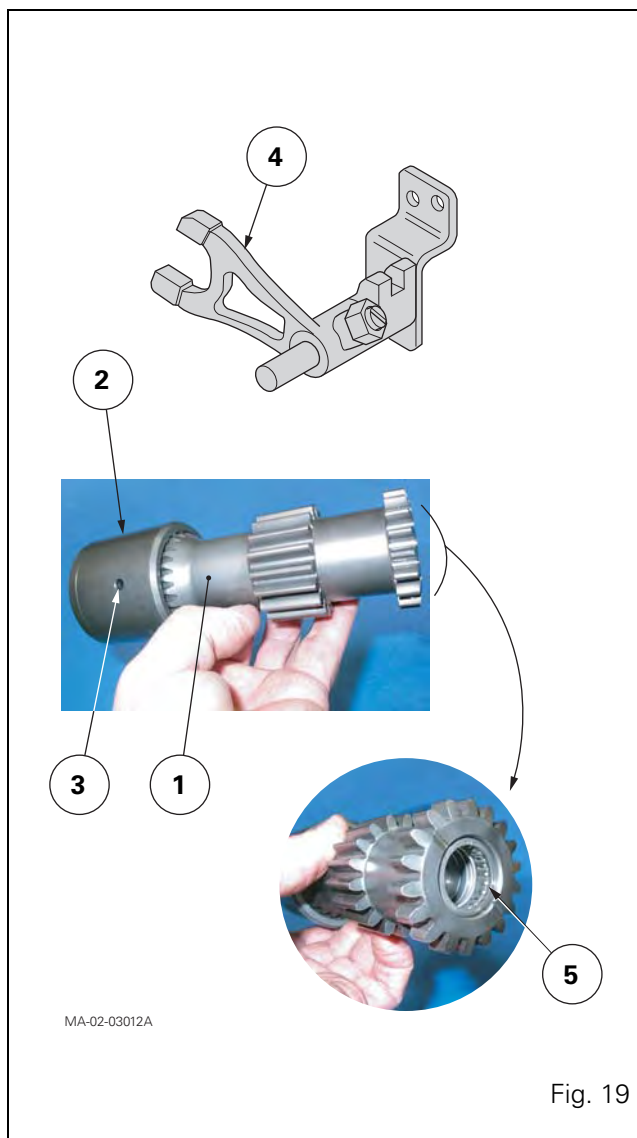

Fig. 19
- The shaft (1) composed of the sleeve (2) and double pin (3) is correctly assembled (Fig. 19).
78. Push the fork (4) towards the front of the gearbox in direct drive position (Fig. 19).
NOTE: The gearbox output shaft supports the shaft (1) via the needle roller bearing (5) (Fig. 19).